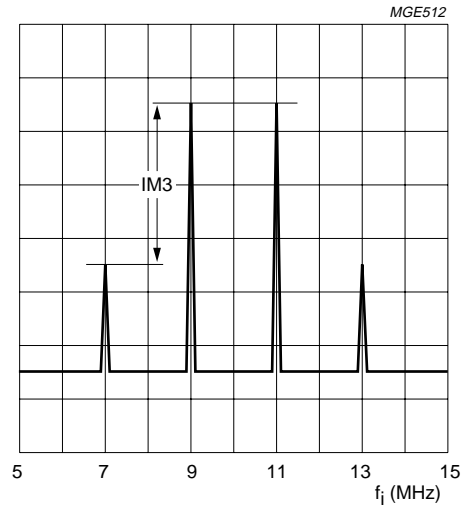

Fig.3 IM3 definition.
7. The specified intermodulation distortion is the minimum value obtained from intermodulation measurements in the I and Q channels. Intermodulation is measured with two sine wave signals at  $f_{i(\text{RF})} = 79 \text{ MHz}$  and  $f_{i(\text{RF})} = 81 \text{ MHz}$  with an amplitude of 67 dB $\mu\text{V}$  for each tone. The difference in level between the converted carriers (9 MHz and 11 MHz) and the intermodulation products after frequency conversion (7 MHz and 13 MHz) is defined as IM3 (see Fig.3).